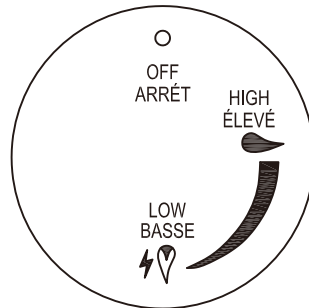

Figure 7
2. Make sure regulator/control knob is in the “OFF” position as shown (See Figure 7).